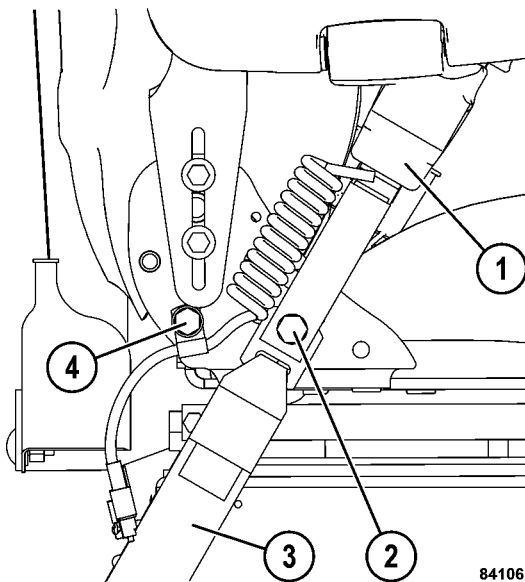
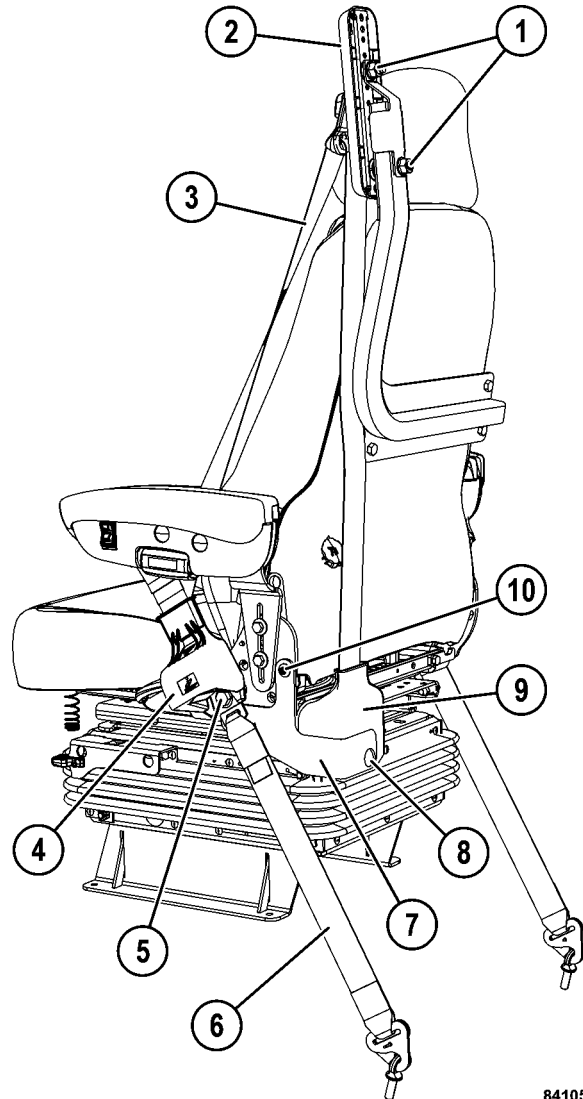

FIGURE 3-27. SEAT BELT BUCKLE
FIGURE 3-28. SHOULDER BELT
1. Remove carriage bolt, flat washer and locknut (8, Figure 3-28). Then remove shoulder belt retractor (9).
2. Recline back of seat forward. Remove two nuts (1). Then remove adjuster (2) from mount. Place loose shoulder belt on seat cushion.
3. Remove cap screw (5), seat belt retractor (4), flat washer and tether (6) and from seat. It may be necessary to also remove cap screw, flat washer and locknut (10) and bracket (7). Remove seat belt and shoulder belt (3) from seat.
4. Disconnect the harness and remove from clip (4), if equipped.
5. Remove cap screw and flange nut (2, Figure 3-27). Then remove seat belt buckle (1) and tether (3).
1. Install tether (3, Figure 3-27) and seat belt buckle (1) to seat with cap screw and flange nut (2). Tether belt is to be positioned at 45 degree angle. Tighten flange nut to **68 N·m (50 ft lb)**.
2. Connect the harness and secure with clip (4), if equipped.
3. If required, install bracket (7, Figure 3-28) with cap screw, flat washer and locknut (10) and bracket (7). Tighten locknut to **47 N·m (35 ft lb)**.
4. Install seat belt retractor (4) and tether (6) using flat washer and cap screw (5). Tether belt is to be positioned at 45 degree angle. Tighten cap screw (5) to **68 N·m (50 ft lb)**.
5. While installing adjuster (2), ensure that shoulder belt (3) is not twisted. Install adjuster (2) onto mount with two nuts (1). Tighten nuts to **68 N·m (50 ft lb)**.
6. Ensure the shoulder belt is not twisted. Slowly extend the shoulder belt and install shoulder belt retractor (9) to bracket (7). Install carriage bolt, flat washer and locknut (8). Tighten locknut to **68 N·m (50 ft lb)**.